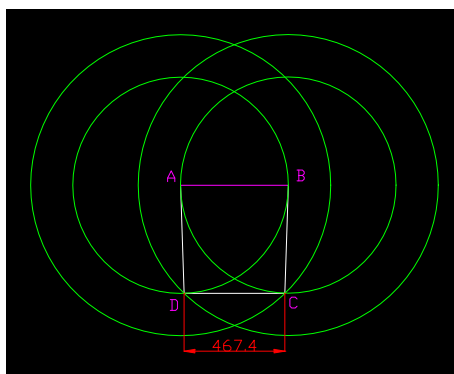

fig.5: design hint curve module
2. Draw line A-B (fig. 5, violet)